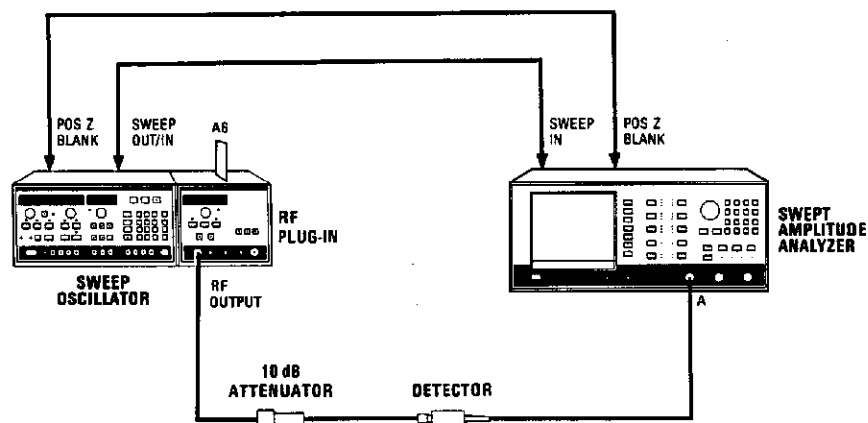

Figure 5-23. Slow Speed YTM to YO Tracking Test Setup
1. Connect equipment as shown in Figure 5-23 with the Model 83592C A7 Sweep Control board on an extender. Allow the equipment to warm up for one hour.
29. Connect equipment as shown in Figure 5-23. On the Model 83592C, set the FILTER PEAK control to mid-range. On the Model 8350A/B, press [RECALL] [1].